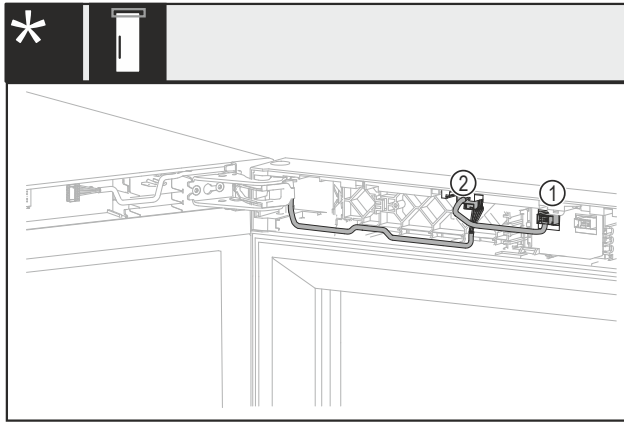

Fig. 19 Without lock or with mechanical lock*
- ▶ Pull out the plug Fig. 19 (1)*
- ▶ Pull out the plug Fig. 19 (2)*